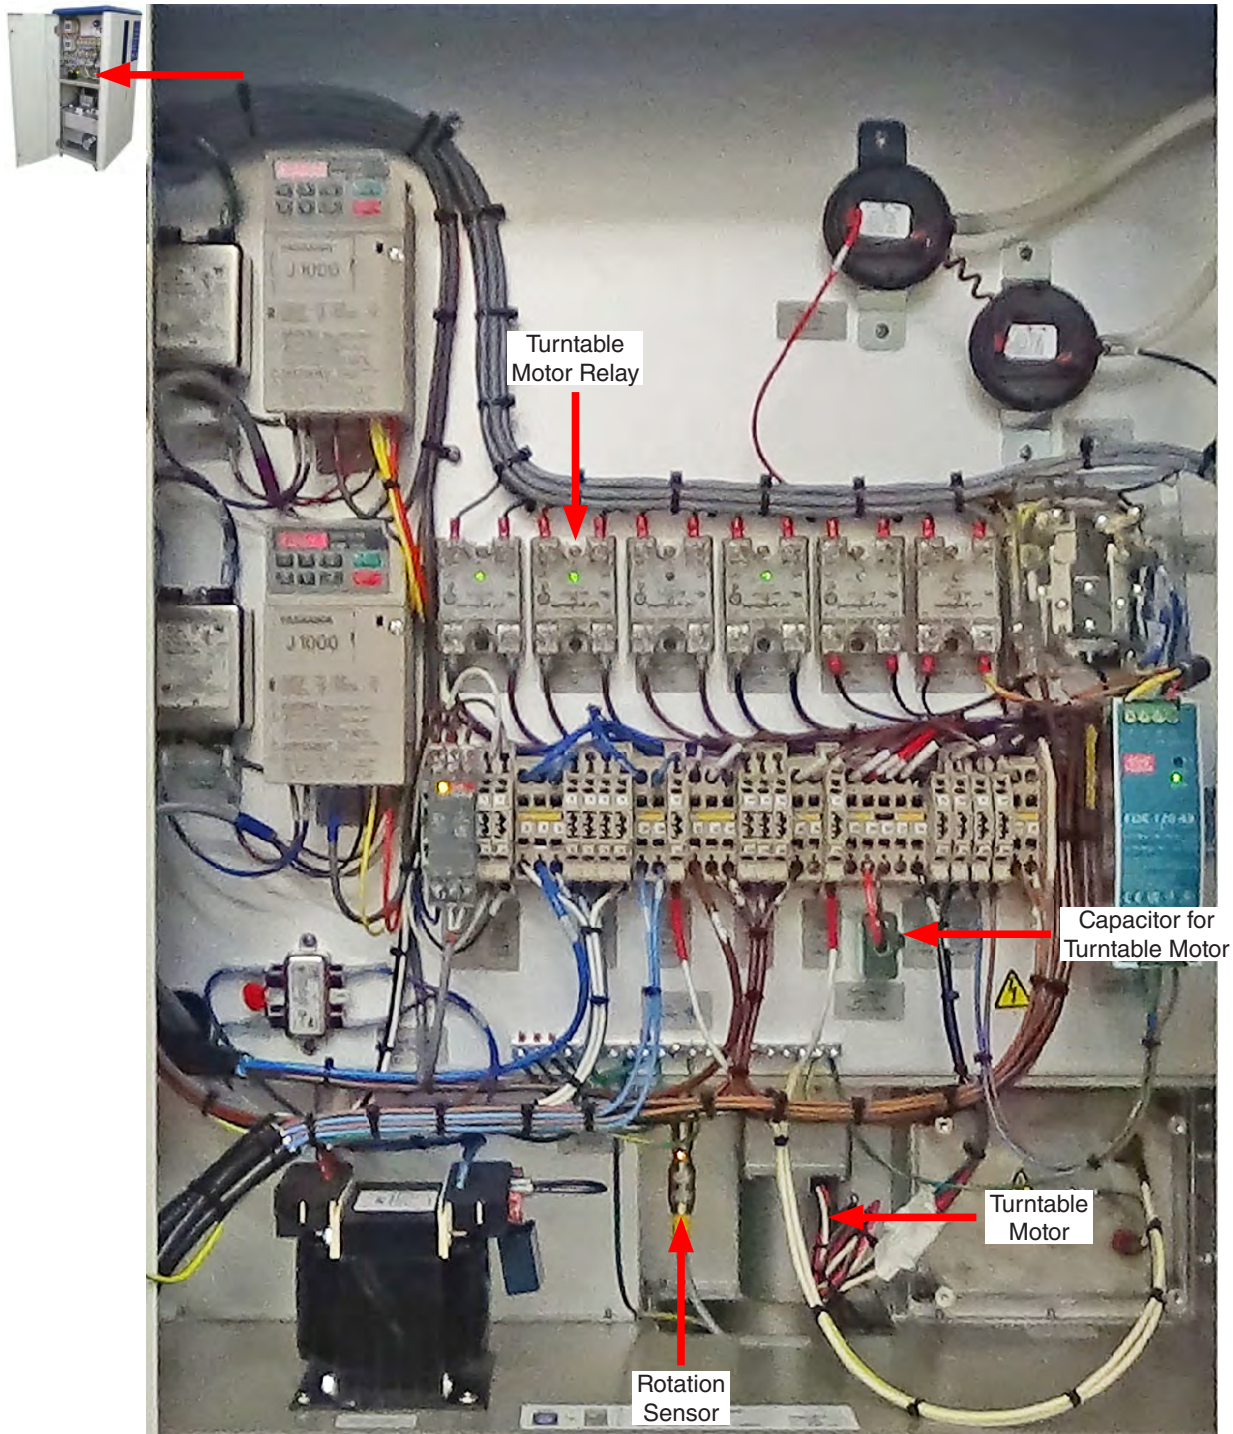

Figure 6.3: Left side access door open showing turntable motor components and rotation sensor.
- The turntable is driven by a motor located below the test chamber floor (Figure 6.3).
- The rotation sensor detects turntable movement (Figure 6.3).